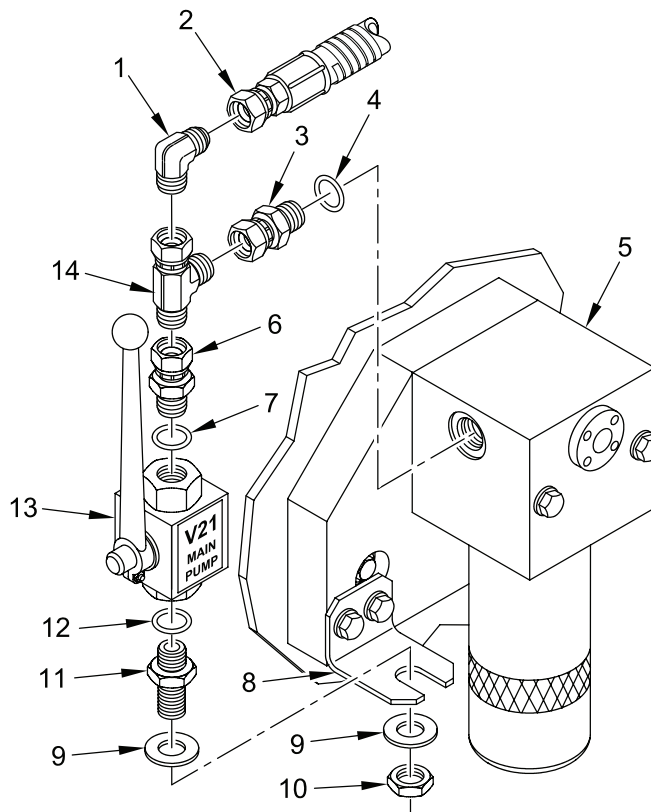

Figure 3. Removing Valve V21 (V22), Relief Valve, and Bypass Hose
1. Install new o-ring (Figure 3, item 4) and adapter (Figure 3, item 3) into filter (Figure 3, item 5).
2. Install tee (Figure 3, item 14) on adapter (Figure 3, item 3) and adapter (Figure 3, item 1) on to top of tee (Figure 3, item 14).
3. Install bypass hose (Figure 3, item 2) onto adapter (Figure 3, item 1).
4. Install new o-ring (Figure 3, item 7) with adapter (Figure 3, item 6) on top of valve V21 (Figure 3, item 13).
5. Install valve V21 (Figure 3, item 13), new o-ring (Figure 3, item 12), two flat washers (Figure 3, item 9), and adapter (Figure 3, item 11) on bulkhead bracket (Figure 3, item 8) and tee (Figure 3, item 14).